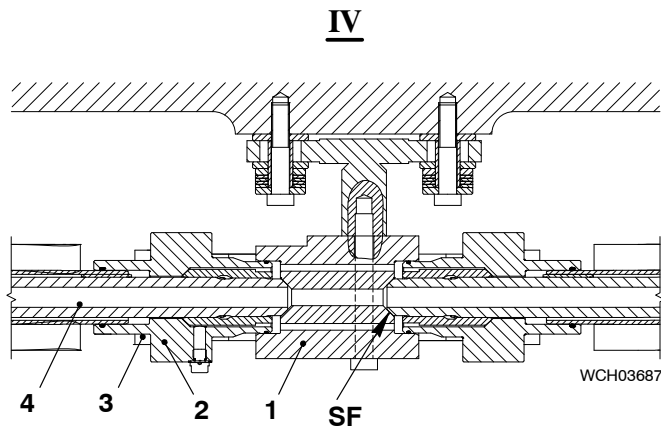

Fig. 10
15) Remove the four screws (3, Fig. 10) from the flange (2).
16) Carefully move the flange (2) away from the intermediate piece (1).
17) Carefully remove the HP fuel pipe (4).
18) Do a check of the sealing faces (SF). If you find damage, do the procedure given in paragraph 3.
19) Apply protection to the sealing faces (SF) to prevent damage and contamination.